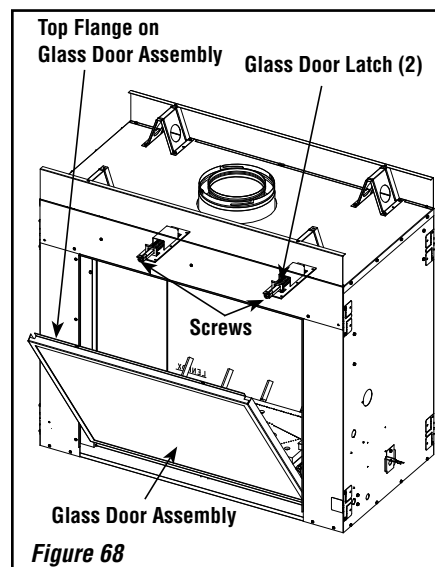

Figure 68
Removing Glass Doors, Barrier, and Modesty Panel (see Figure 68)
- a) See **Figure 68**. While holding the top of the glass door frame in place, use a #3 Phillips screwdriver to remove the two (2) screws securing the door frame to the two (2) door latches.
- b) Carefully tilt the top of the glass door frame away from the unit (as shown in **Figure 68**), and then lift the door assembly up and out of the lower track.
Installing Glass Doors, Barrier, and Modesty Panel (see Figure 68)
- b) Position the door in front of the firebox opening, with the top of the door held away from the fireplace (see **Figure 68**).
- d) Using a #3 Phillips screwdriver, fasten the door frame to the door latches with the two (2) latch screws. The latches should pull forward to engage the door frame.